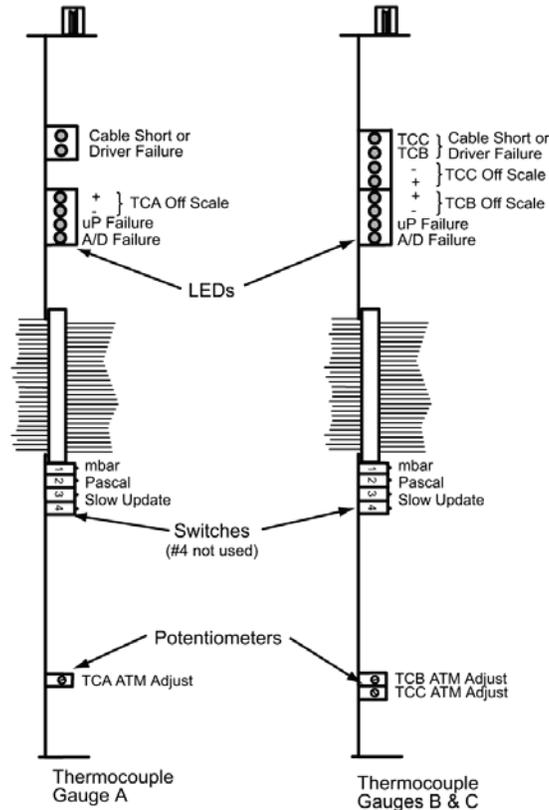

Figure 3-5 Thermocouple Gauge Modules, Top View (Controller Cover Removed)
3. Adjust the atmosphere potentiometer(s) (see Figure 3-5) for the thermocouple gauge(s), until the pressure display is $9.99 \times 10^{+9}$. Note that when adjusted beyond this point the decimal point of the display will disappear. "Perfect" calibration is achieved when the decimal point just disappears. The resolution of the gauge at this point is very poor, and the appearance or disappearance of the decimal point during normal operation when the gauge is at atmosphere is no cause for concern.
Refer to Figure 3-5 for the location of the LEDs listed in this guide.